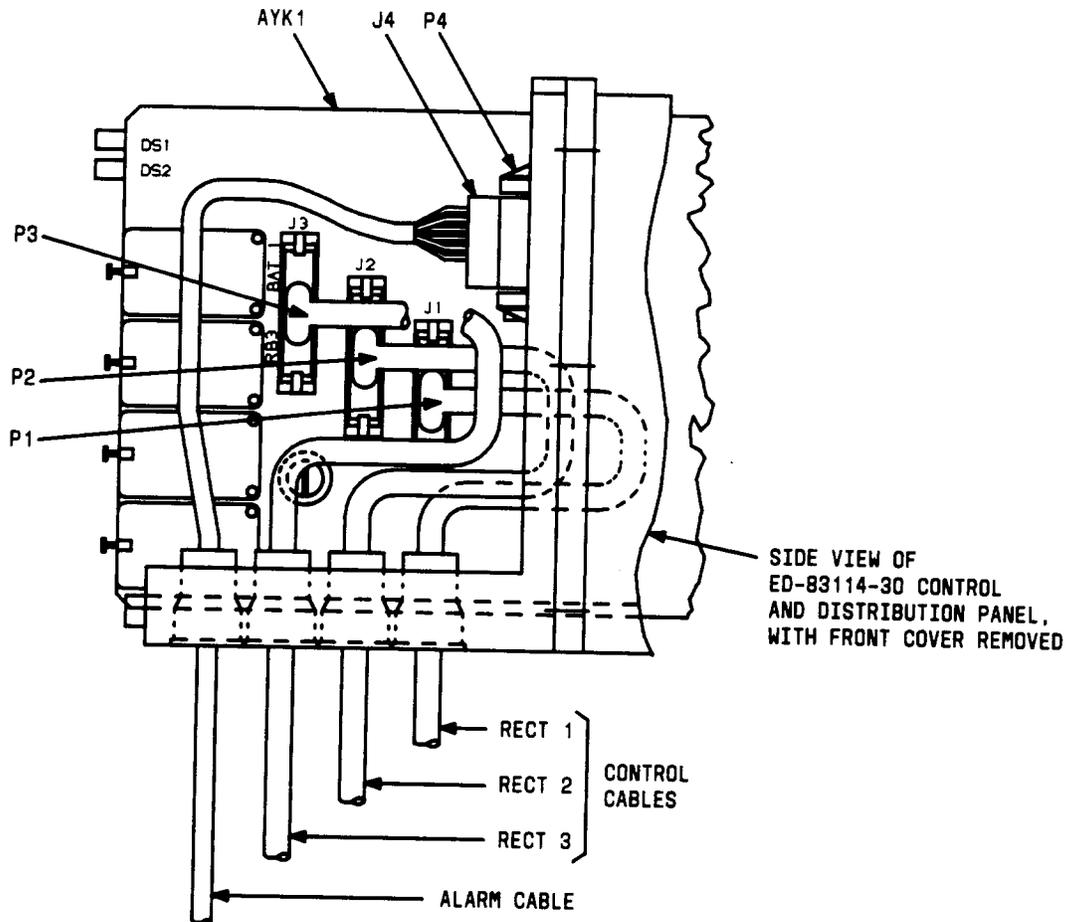

Fig. 1—Location of Rectifier Cable Plugs at AYK1 Circuit Pack
24. At AYK1 circuit pack, disconnect plug **P1 (RB1)**, **P2 (RB2)**, or **P3 (RB3)** associated with tripped breaker (FIG. 1).